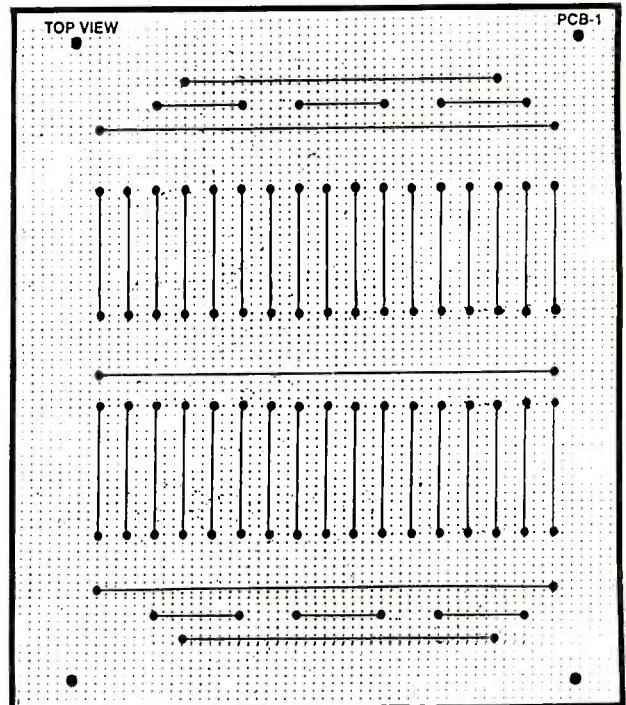

Figure 2:
Preferring breadboard-style circuit building as the quickest method to prototype a circuit and get it on the air, we used a single 2 inch by 2.25 inch section of the newly available **SINGMIN-PCB-1** printed circuit board as our R. U. S. H. Radio construction platform. A top-view of the PCB is shown in Figure 2. Component layout and wiring diagrams of the R. U. S. H. Radio's breadboard circuitry are shown. T-1 (RF) and T-2 (IF) Transformer winding data is also referenced.